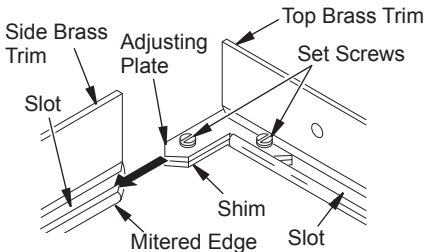

Figure 11 - Assembling Brass Trim
3. Align shim under adjusting plate as shown in Figure 11, page 10.
4. Slide one end of adjusting plate/shim in slot on mitered edge of top brass trim (see Figure 11, page 10).
5. Slide other end of adjusting plate/shim in slot on mitered edge of side brass trim (see Figure 11, page 10).